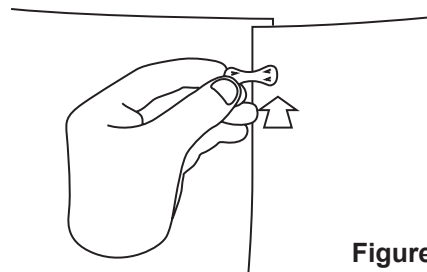

Figure 13.
- Hook one end of the clip onto the overlapping section of carbon pre-filter as shown in figure 13.